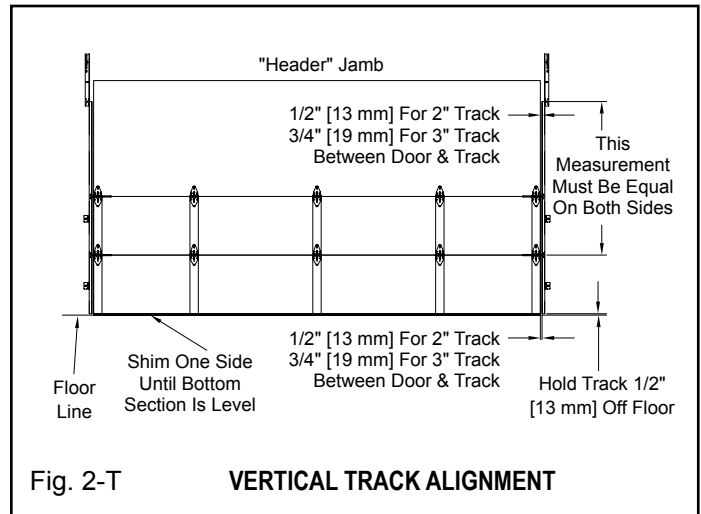
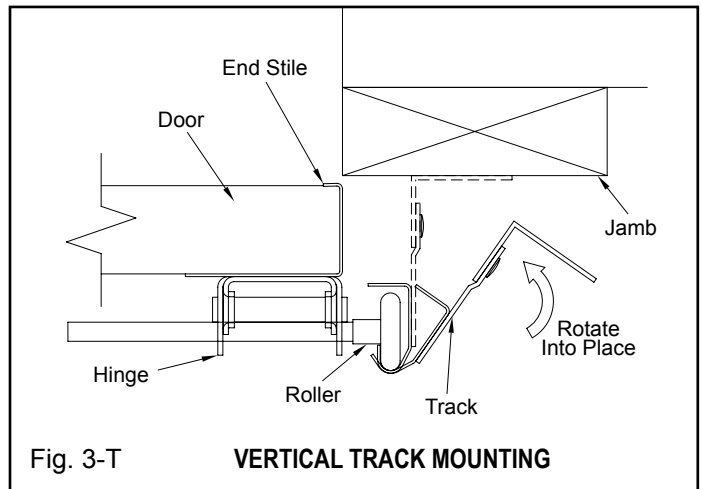
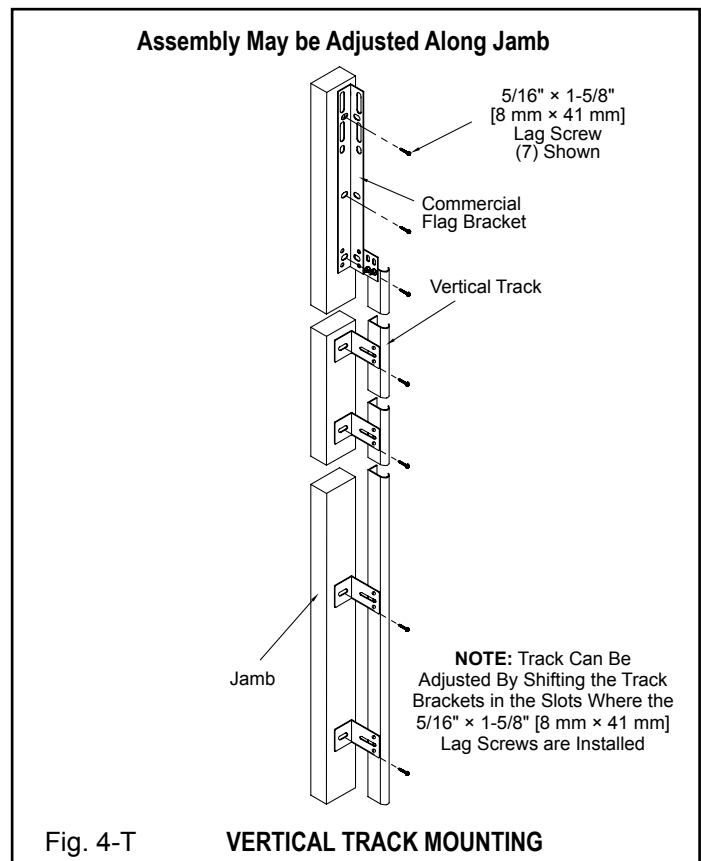

Fig. 2-T
Fig. 3-T
Fig. 4-T
Use a 3/32" [2 mm] Allen wrench to attach exterior lift handle to studs using 3/16" set screws (Fig. 4-S).
Remember: The small indentations that run the length of the top rail and end stile mark the mounting location (Fig. 4-S).
Step 1: Top Bracket Attachment. Loosen roller carrier and insert roller. Two (2) #14 × 5/8" [6 mm × 16 mm] self-drilling screws should fasten the top of the each bracket to the top rail and two (2) screws should attach the bottom of the roller bracket to the end stile (Fig. 4-S).
Step 1: Vertical Track. Center bottom section in opening on inside of garage. Level section by shimming low side (Fig. 2-T). Leave shims in place until door install is completed. Install the vertical track on opposite side of where block was placed, over the two (2) rollers of the bottom section with a twisting motion (Fig. 3-T). Raise track 1/2" [13 mm] off the floor and screw 5/16" × 1-5/8" [8 mm × 41 mm] lags (wood jambs) or self-drilling screws (steel jambs) through bottom mounting bracket (Fig. 4-T). Adjust track sideways to allow 1/4" [6 mm] end play in roller about 1/2" [13 mm] (2" track) or 3/4" [19 mm] (3" track) from edge of track to edge of door (Fig 2-T). Plumb vertical track and put at least two (2) lags or sheet metal screws in the mounting brackets at the top of the door. Final adjustment will be made after door is stacked. Measure from the top of the vertical track to the top of the bottom section and set the opposite track at exact same height repeating above procedure (Fig. 2-T). Since the bottom section is level, then the vertical tracks must be level. Make sure bottom rollers do not come out of the bottom of the track.
Step 3: Finishing Vertical Track. Set the top of the vertical tracks so that there is a 1/4" [6 mm] end play in the rollers, about 1/2" [13 mm] (2" track) or 3/4" [19 mm] (3" track) from edge of door (Fig. 2-T). Finish attaching vertical track to the wall. If you are mounting to steel jambs, you will have to wait until you can raise the door to finish attaching vertical tracks.